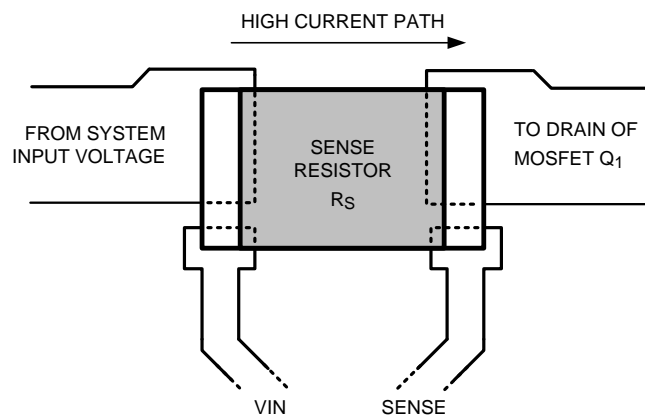

Figure 57. Sense Resistor Connections
- The sense resistor (R_S) should be placed close to the LM25066. In particular, the trace to the VIN pin should be made as low resistance as practical to ensure maximum current and power measurement accuracy. Connect R_S using the Kelvin techniques shown in Figure 57.